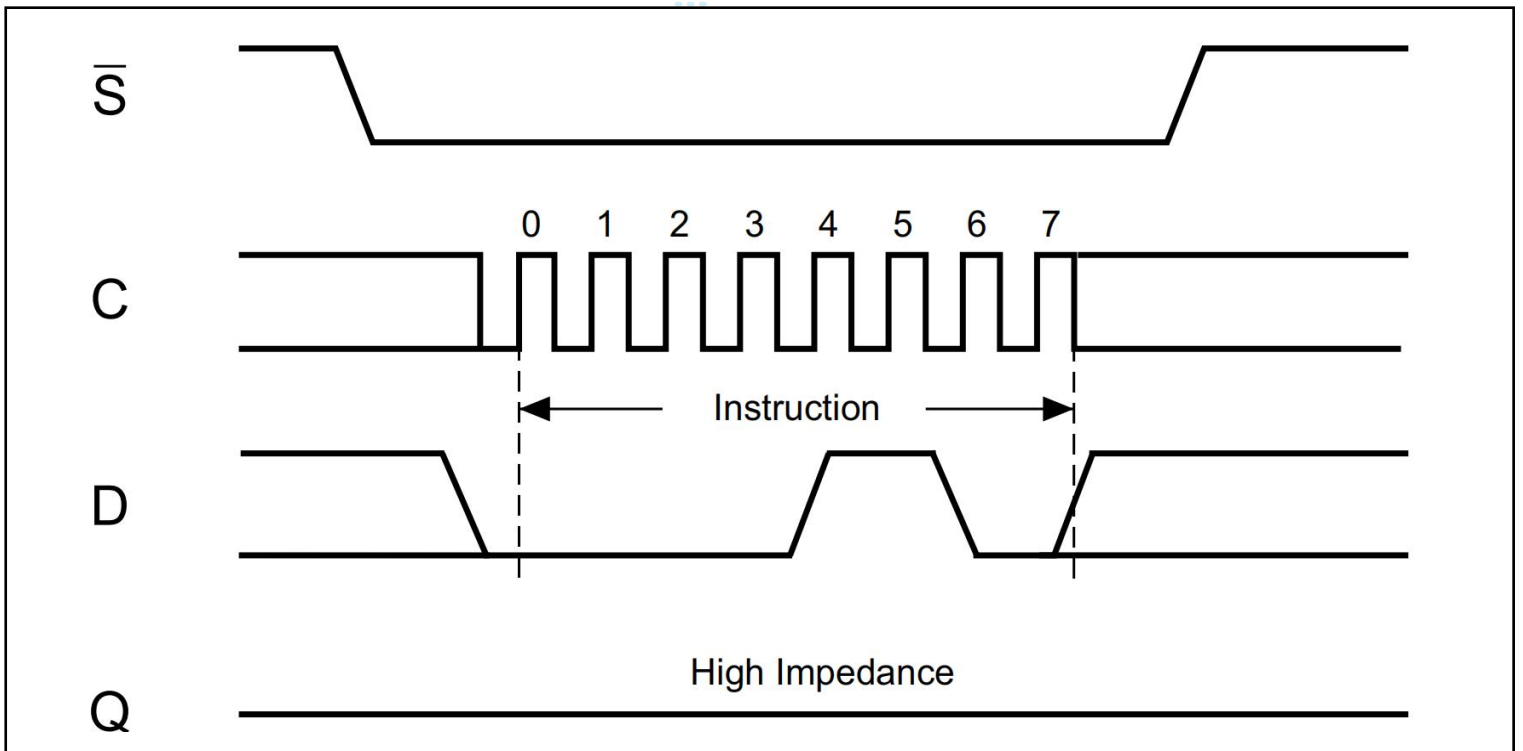

Figure 6. Write Enable (WREN) sequence
As shown in Figure 6, to send this instruction to the device, Chip Select (S) is driven low, and the bits of the instruction byte are shifted in, on Serial Data Input (D). The device then enters a wait state. It waits for the device to be deselected by Chip Select (S) being driven high.